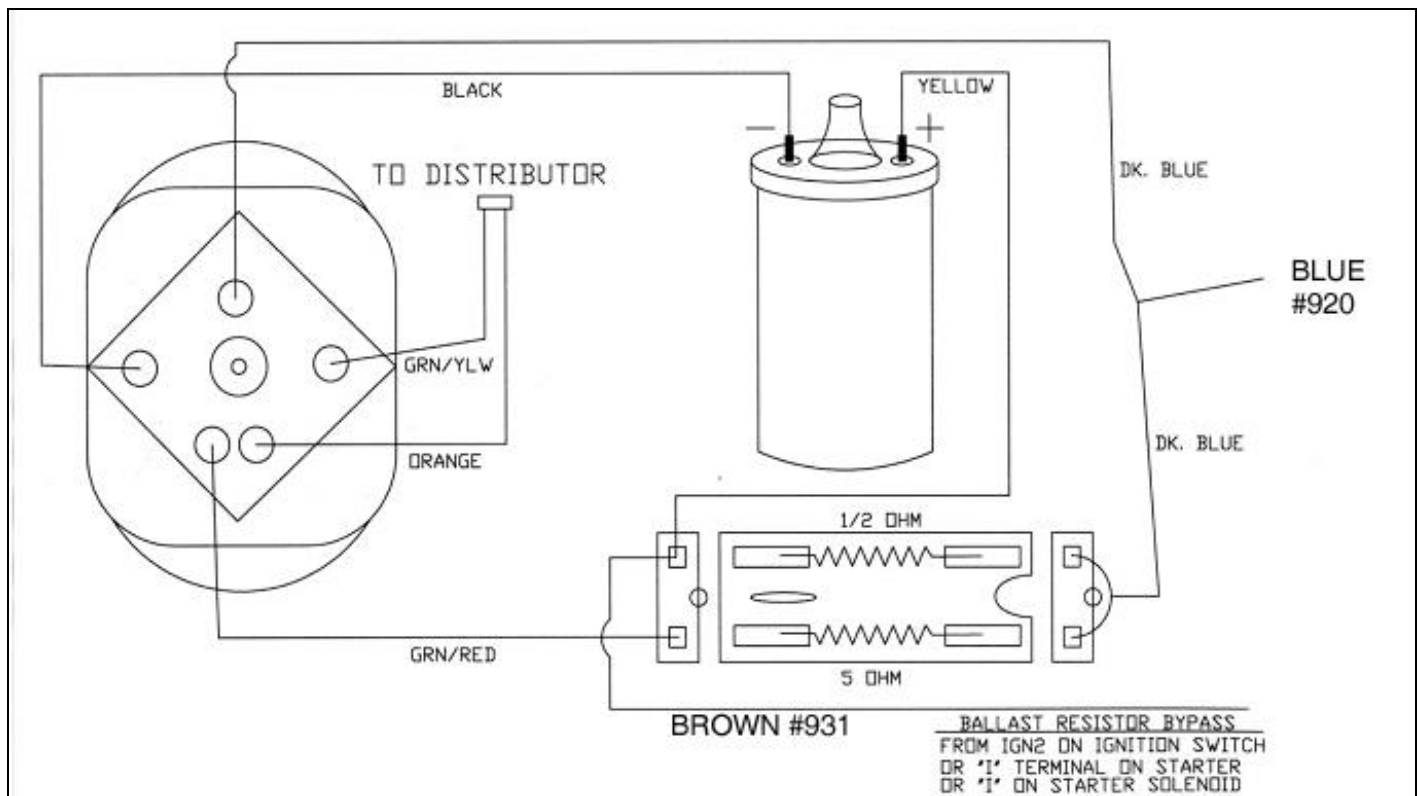

**Figure 7-1B** High Output Wire
- CAUTION: IF USING AN ALTERNATOR WITH AN OUTPUT LARGER THAN 65 AMPS, YOU WILL ALSO NEED TO USE JUMPER WIRE #960 (RED), INCLUDED IN BOX. THE WIRE END WITH THE RING TERMINAL AND RUBBER BOOT WILL CONNECT TO THE ALTERNATOR OUTPUT LUG. ROUTE THE OTHER END TO THE STARTER. CUT THE WIRE AND CRIMP ON A RING TERMINAL. INSTALL ON SAME TERMINAL OF MAXI FUSE AS #916 RED. SEE FIGURE 7-1B.**
- 7.1.3** Connect a 14-gauge wire from the Alternator terminal where wire #914 is connected to either of the ELECTRONIC Voltage Regulator terminals OR terminal (I) of the MECHANICAL Voltage Regulator. On existing Mopar harnesses, this would be a blue wire.